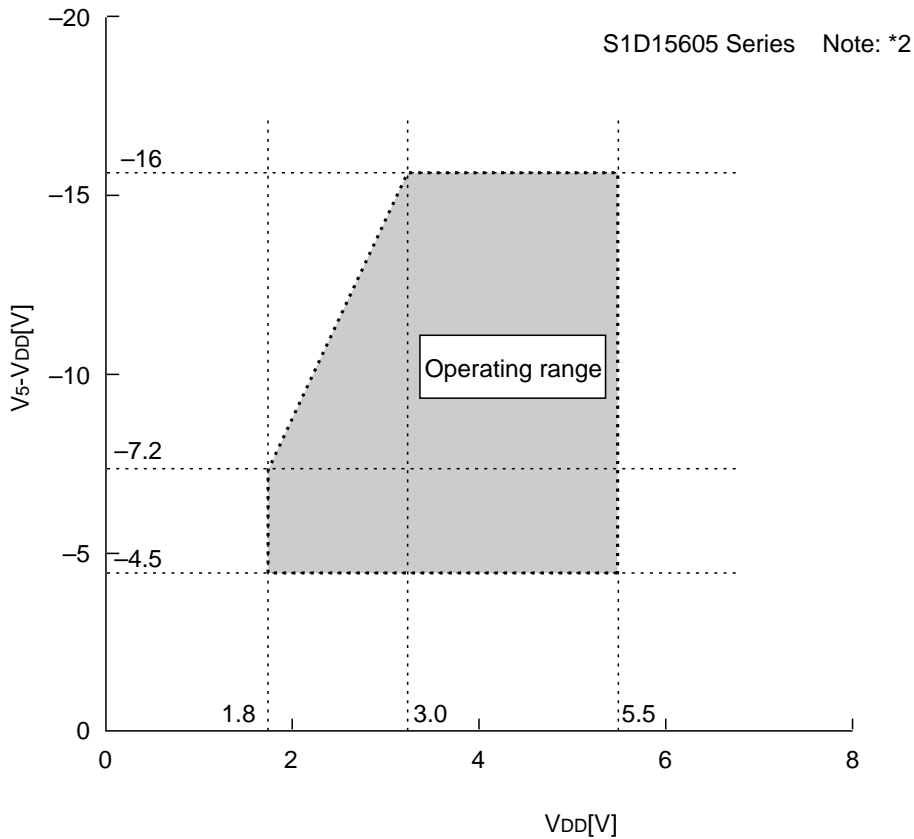

Figure 36
- *2 The operating voltage range for the V_{DD} system and the V₅ system is as shown in Figure 36. This applies when the external power supply is being used.
- *3 The A0, D0 to D5, D6 (SCL), D7 (SI), \overline{RD} (E), \overline{WR} (R/ \overline{W}), $\overline{CS1}$, CS2, CLS, CL, FR, M/S, C86, P/S, \overline{DOF} , \overline{RES} , IRS, and \overline{HPM} terminals.
- *5 The A0, \overline{RD} (E), \overline{WR} (R/ \overline{W}), $\overline{CS1}$, CS2, CLS, M/S, C86, P/S, \overline{RES} , IRS, and \overline{HPM} terminals.
- *6 Applies when the D0 to D5, D6 (SCL), D7 (SI), CL, FR, and \overline{DOF} terminals are in a high impedance state.
- *7 These are the resistance values for when a 0.1 V voltage is applied between the output terminal SEG_n or COM_n and the various power supply terminals (V₁, V₂, V₃, and V₄). These are specified for the operating voltage (3) range.